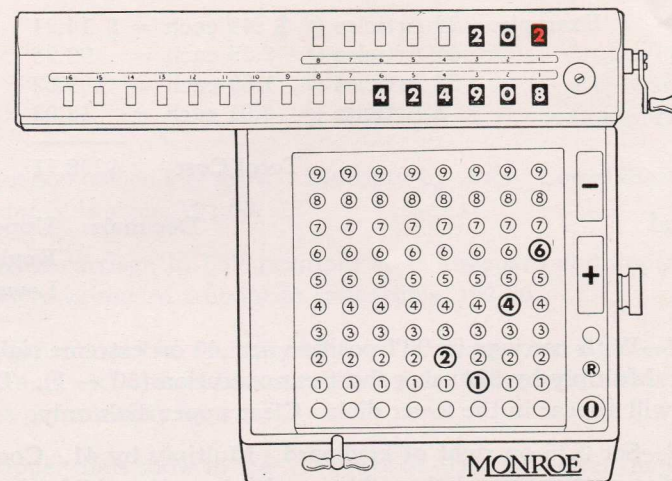

Figure 13
*Step 2*—Then move the carriage to the left two places so that it is in the "1" position. With the minus bar subtract twice. The answer, 424908, will then appear in the lower dials. In the upper dials will be 202, i.e., 200 less 2. See Figure 13.